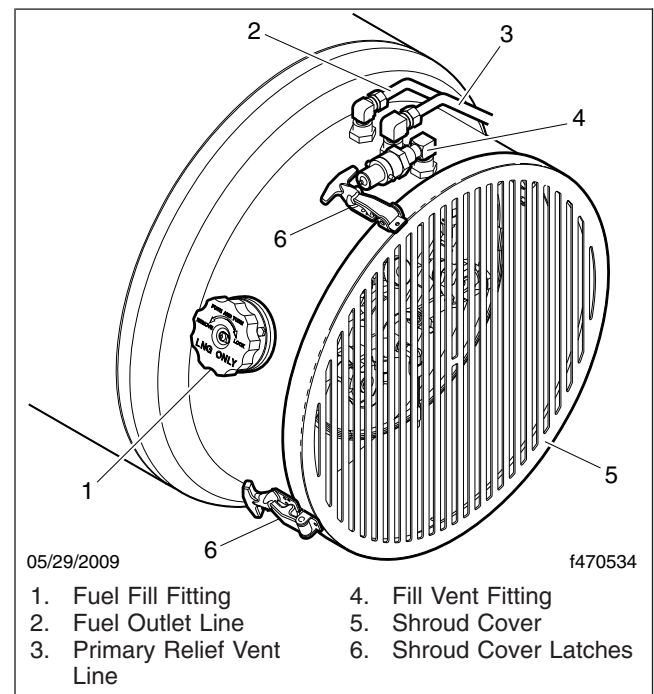

Fig. 19.3, LNG Fuel Tank
2. Remove the fuel fill fitting dust cap. See Fig. 19.3.